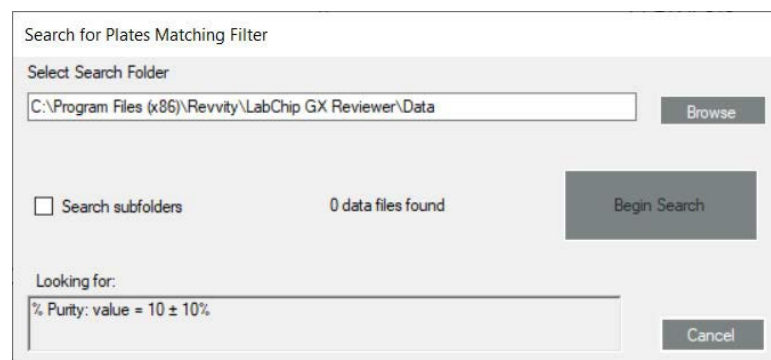

Figure 28. Search for Plates Matching Filter Window
- 3 Click the **Search Data Files** button in the Filter View. The Search for Plates Matching Filter window opens as shown in Figure 28.